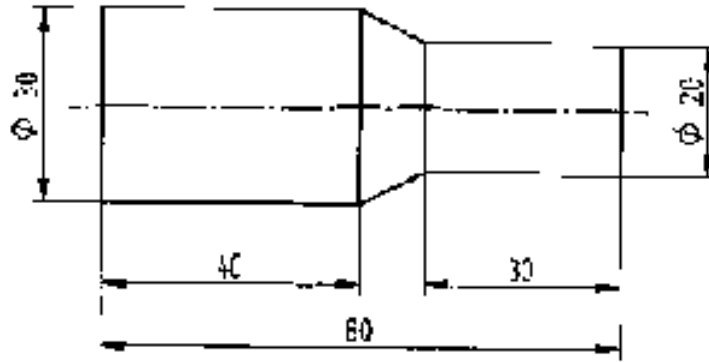

Fig 6(b)
- b) Write a part program for the component shown in figure 6 (b) below : 8M